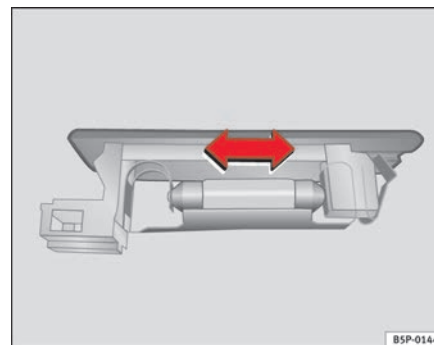

Fig. 161 Luggage compartment light
- Press the lamp sideways and remove from its housing ⇒ fig. 161. ■